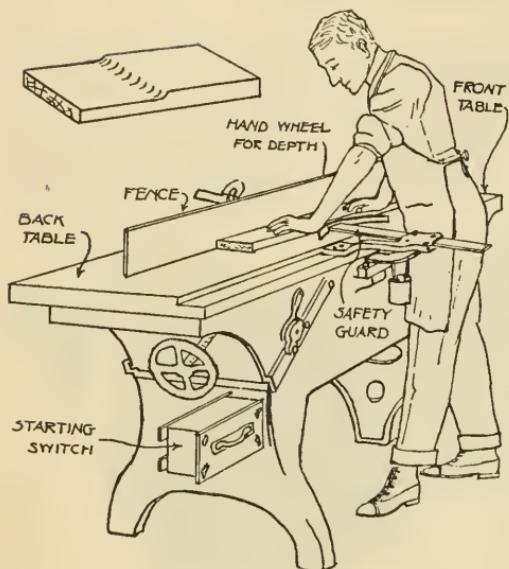
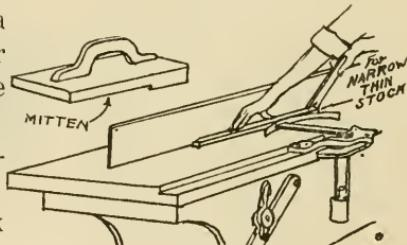
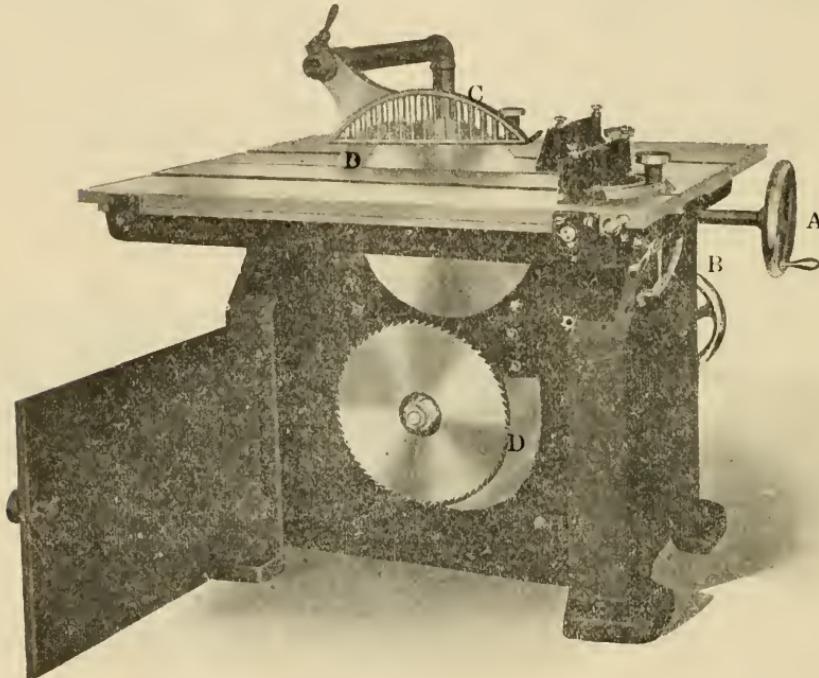

FIG. 6— WORKING FACE
FIG. 7— USING A PUSH STICK FOR NARROW STOCK.
FIG. 12—DOUBLE ARBOR SAW WITH GUARD and SPLITTERS
of a surface and to plane an edge at right angles to that face. It is also used for planing glue joints and dadoing. Fig. 6, shows a jointer with parts labeled.
8. Tables-- The tables, Figure 6, are mounted in such a way that they can be drawn from the cutter head on a level, independently of the device for raising and lowering them. The best tables are provided with steel lips located close to the cylinder head. When the lips are of the same material as the other parts of the table they are not as serviceable. The front table, or the one at which the operator stands when he begins to run a piece of wood over the jointer, is the one that determines the size of the cut to be made on a piece of stock. The most desirable type is the one that has a hand wheel, Figure 6, on the back side of the table and permits the operator to stand in front of the machine while adjusting the depth of the cut. With the old type it is necessary to get down and reach below the machine to make this adjustment.
9. Operation.-- Assume the position in Figure 6 and be careful at all times that you do not slip, which may result in a bad accident to hands or fingers. A piece of rubber matting nailed to the floor is a great aid to easier and safer operation. Cleats are sometimes nailed to the floor when matting is not available, but are an inconvenience when sweeping.
10. Working Face-- To plane a working face assume the position shown in Fig. 6. The piece to be planed is placed on the front table after being certain that the gauge is set for the proper thickness and pushed slowly over the revolving cylinder, being careful at all
times to keep the stock firmly on the table. This may be accomplished with both hands on the surface of the board being planed. A precaution must always be taken, especially with beginning students by using the wooden mitten shown in the top of Fig. 7. This is placed in the back end of the piece which is being shoved over the jointer. Again referring to Fig. 6, it will readily be seen how easily it is to drop the right hand down upon the revolving cylinder thus causing a very serious accident, which can be avoided by the use of the mitten and push
stick, which is also shown in Fig. 7. Be sure at all times to use the safety guard. There is only one exception to this which will be noted later. Always run the stock so that the knife will cut with the grain.
11. Jointing An Edge-- Planing a working edge on the jointer is similar to squaring up a working edge at the bench. The piece is set against the fence and fed very slowly in a manner similar to that shown in making a working face Fig. 6. If the stock is wide so that the top edge comes above the fence and fed very slowly it will not be necessary to use the mitten or push stick. It is best always to feed the stock so that it will
The Universal saw, Fig. 12, has a hand wheel "A" for revolving the two saw arbors making it possible to change very quickly from rip to cross cut saw or vice versa, and for raising or lowering the saw which determines the distances it projects above the saw table while in use. Remember that the saw should **never project farther** above the table than is absolutely necessary for the thickness of stock being cut.
The guard "C" and splitter "D" also shown in Fig. 12 are necessary as "Safety Devices." The guard should be used at all times when possible. The splitter is a farther safeguard because it keeps the stock from pinching after it has passed the saw.
the micrometer adjustment. Notice the locating holes in the top of the table for adjusting the fence to cut very wide stock. (3) See that the clamp on the tilting hand wheel, "B" in Fig. 12 is set, and if you are using the Double Arbor Saw be sure that the clamp under the table is set so that the top will not roll. (4) Last but not least see that the guard and splitter are in place. You are now ready to shove the stock over the saw. When the end of the board starts over the saw make sure that the edge is against the fence and you will have no difficulty in ripping parallel with the edge and getting the exact width of stock for which the fence has been set. As you push the board over the saw, stand either to the right or to the left of it. Should the board twist in any way and become caught in the saw you could not stop it or get out of the way in time to prevent a serious accident. When the stock is narrow, or it becomes necessary for your hands to come near the saw use a push stick as shown in Fig. 7, while operating the jointer.